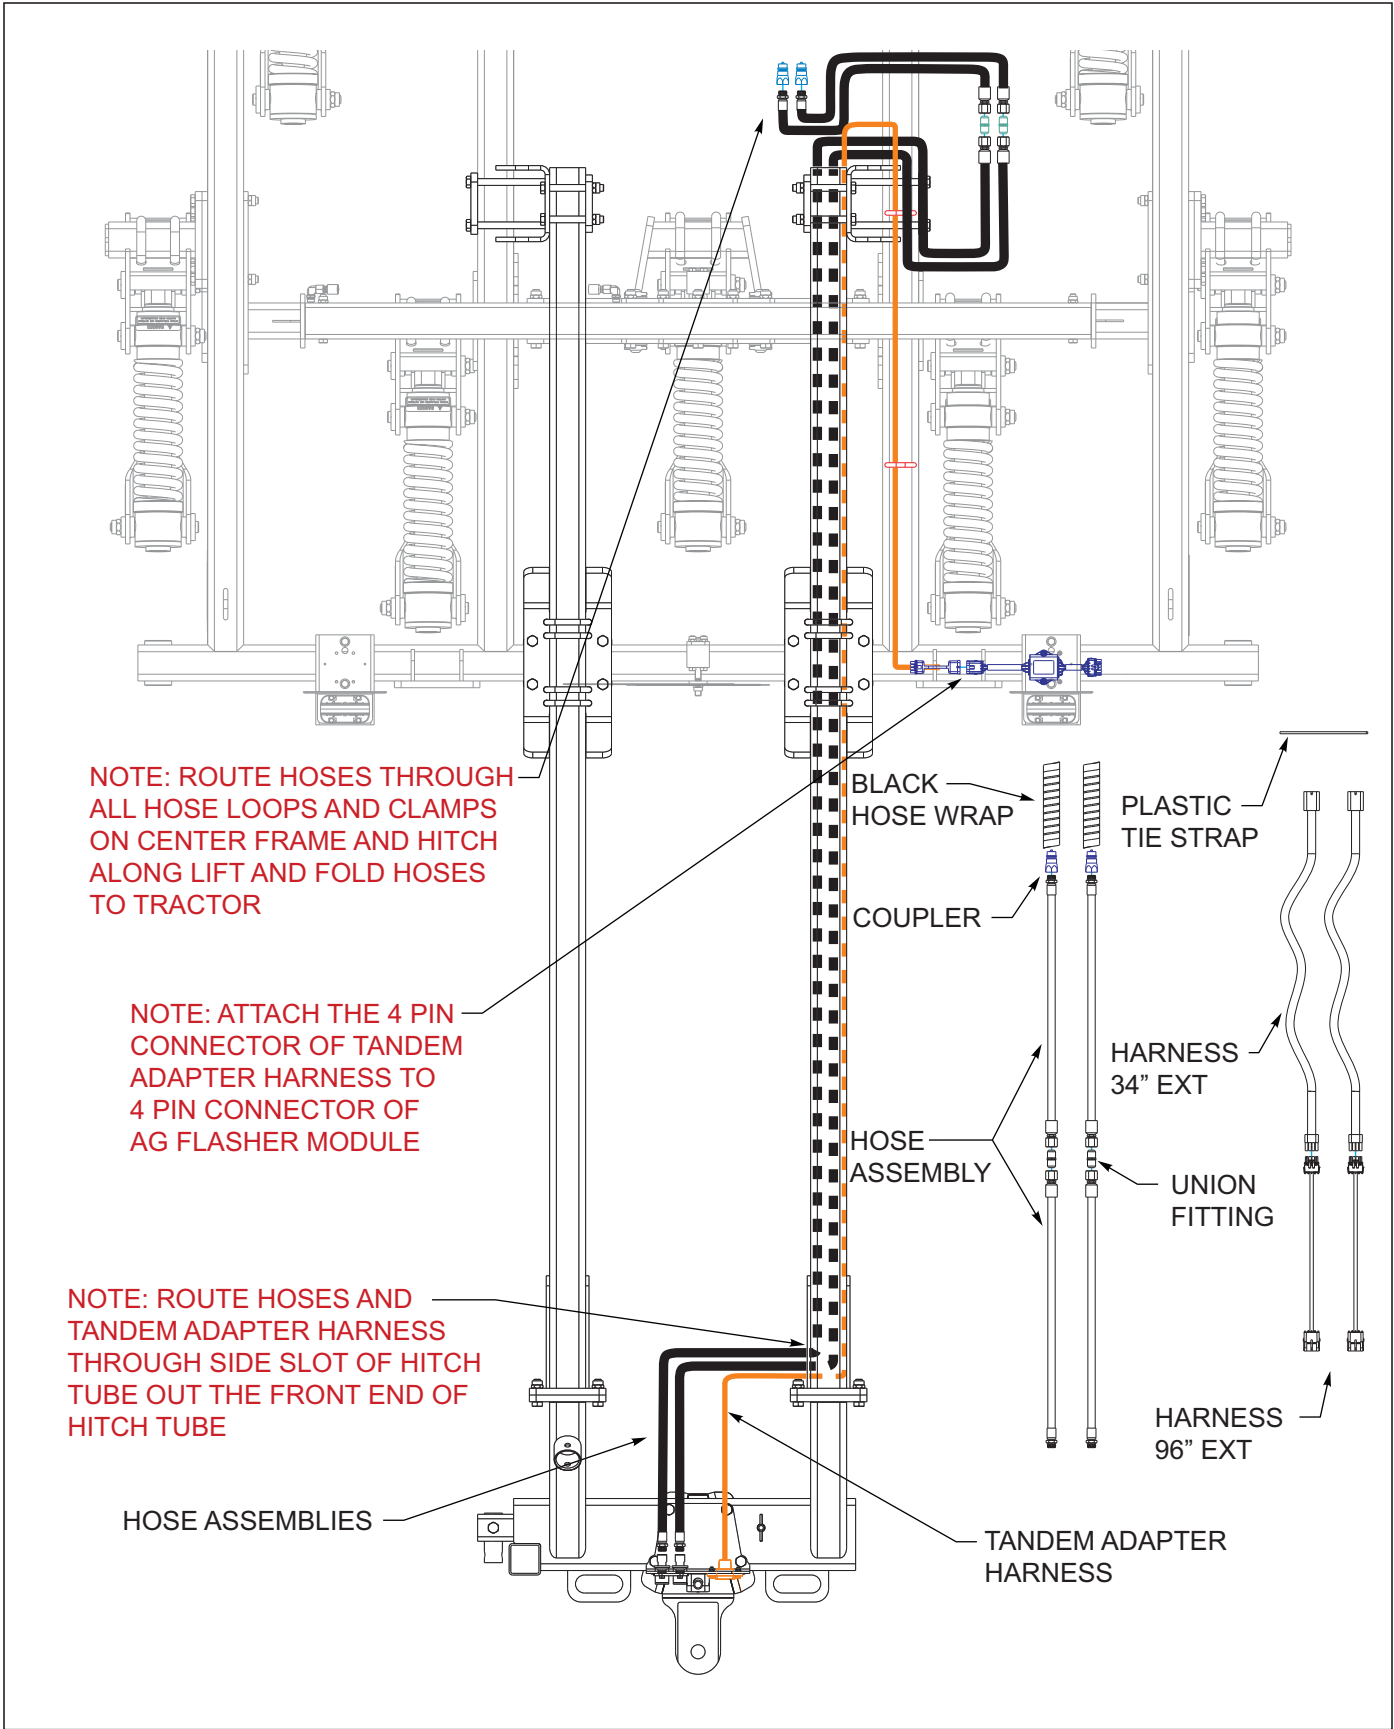

Figure 3-39: Rear Tow Hitch Layout
10. Route hydraulic hose assemblies on right side of hitch, through tube and follow hose loops to front as shown **See Figures 3-39.** Connect one end of the hyd mount assembly and the other end to the union fittings. Connect the couplers to the hose assembly. Attach the other end of the hoses to the union fittings as shown.